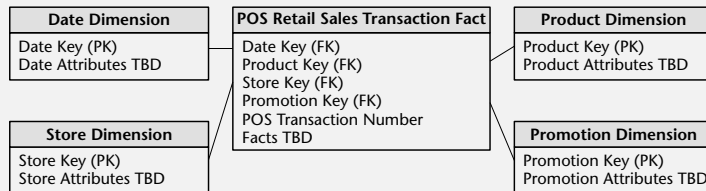

Figure 12: Preliminary retail sales schema
- A preliminary schema is shown in figure 12.